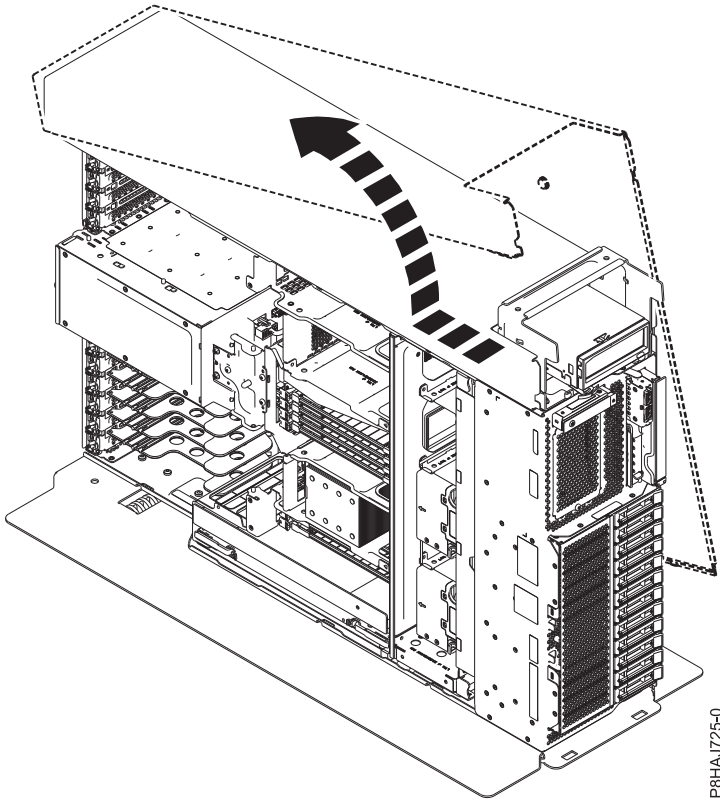

Figure 61. Removing the 8286-41A side cover
5. Slide the side cover off of the system in the direction that is shown in Figure 61 on page 99.